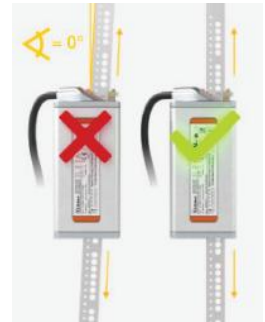

Figure 15: Sensor and Tape Alignment
19. Adjust the sensor's position using the T-hole so that the tape is straight and not tilted to the side. Once the tape is correctly positioned in the sensor, fully tighten the Sensor Fastening Screw. See Figure 15